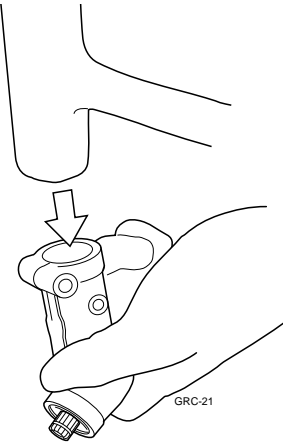

Figure 11.14 Removing excess drag.
☛ *Excessive drag usually can be eliminated by tapping the input end of the gearcase sharply with a soft-faced hammer (Figure 11.14).*
■ Fill the gearcase with Shindaiwa™ lithium-based gearcase lube (Figure 11.14), then replace the gearcase grease plug and grease collar in the reverse order of disassembly.